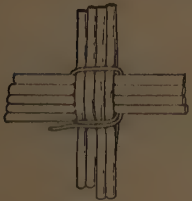

FIG. 8
6. You have now gone around the center once. Make the second round exactly like the first (Figs. 8 and 9).
6. You have now completed the first round. Make the second round exactly like the first (Figs. 8 and 9).